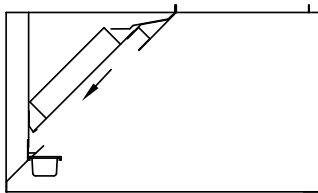

Fig. 24
3. When the filter is even with the bottom rear filter channel, set the filter into the channel; Fig. 24.